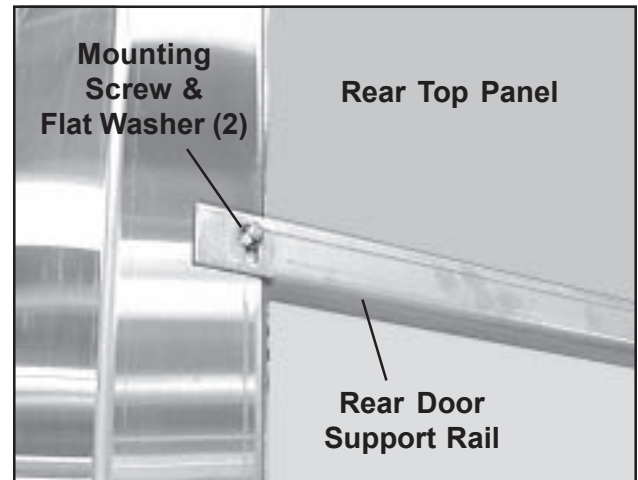

Figure 19. Rear Door Support Rail in Place
2. Loosely fasten the rail in place with two flat washers and hex screws (Figure 19). Leave the screws finger-tight for now - you will adjust the rail and tighten the screws later.